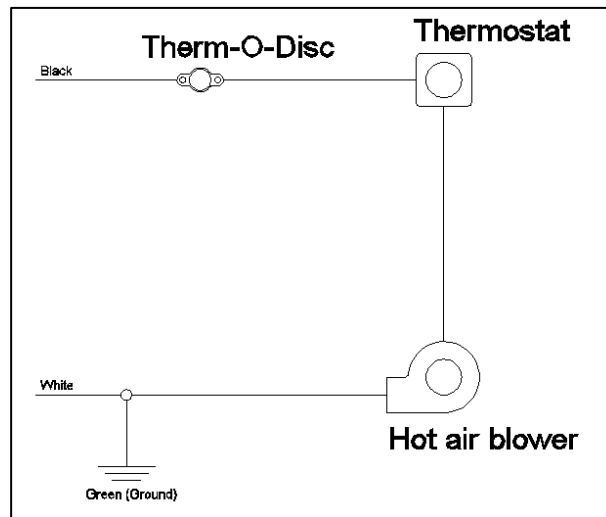

Figure 4-3: Electrical Diagram for Hot Air Kit
10. Make the electrical connections (Figures 4-3 and 4-4). Note that the power supply to the blower is 115V.